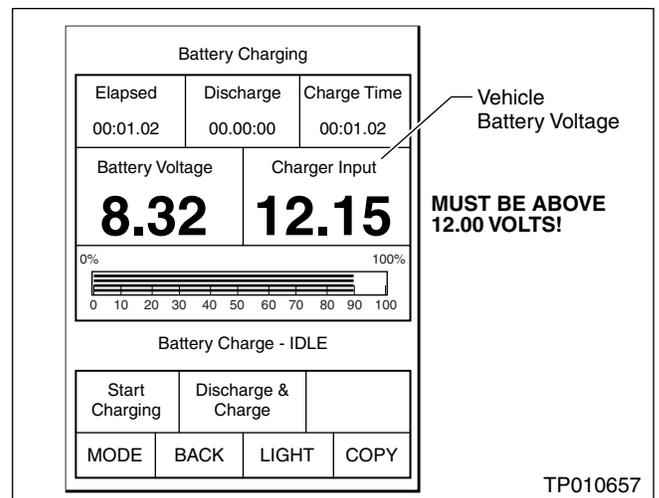

Figure C2
5. Check the vehicle’s battery voltage reading on the CONSULT-II screen (see Figure C2).